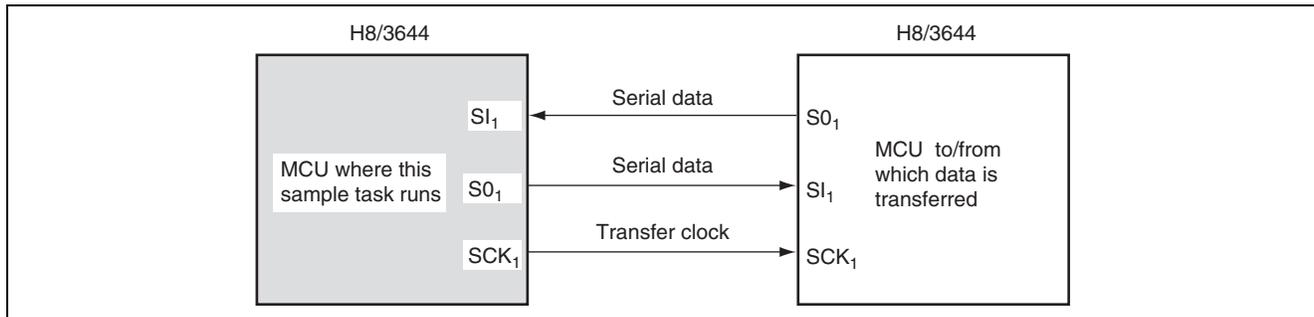

Figure 1.1 Simultaneous Serial Transmission/Reception in Synchronous Mode
1. As shown in figure 1.1, four bytes of eight-bit data are simultaneously transmitted and received using the serial data transfer function in synchronous mode.